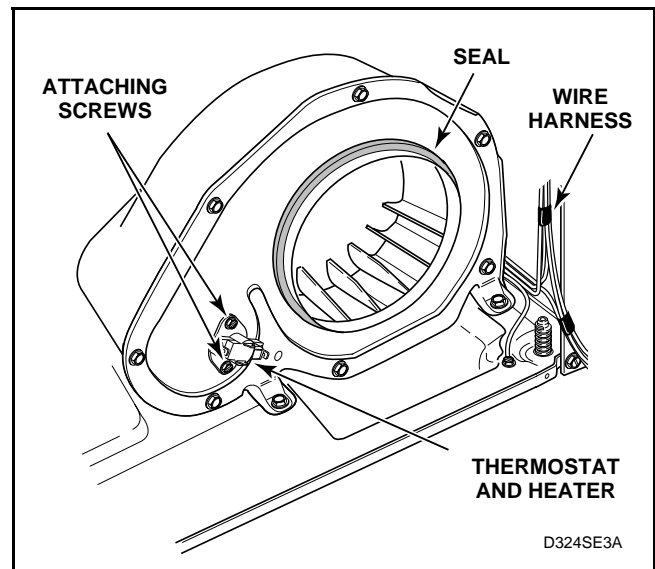
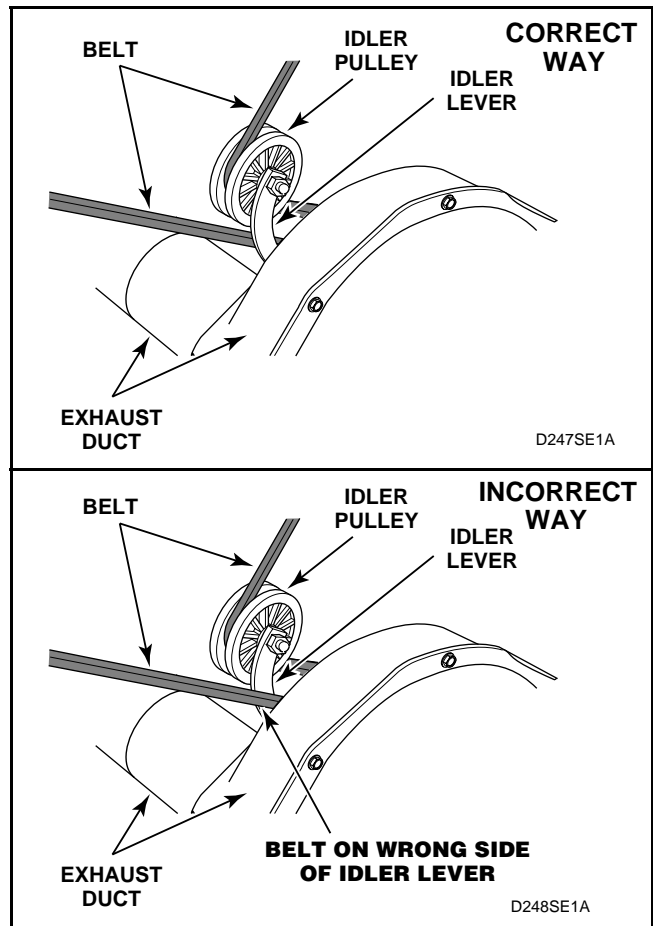

Figure 18
Figure 21
- Disconnect wires and remove thermostat attaching screws, thermostat and heater. See *Figure 18*.
**IMPORTANT:** When reassembling, be sure seal on exhaust fan cover makes airtight seal on flange of duct. See *Figure 18*. If the seal is installed improperly, the airflow through the exhaust system will be restricted which can adversely affect dryer performance.
- Remove cylinder belt from idler and motor pulleys. See *Figure 21*.
**IMPORTANT:** When reinstalling motor and exhaust assembly, be sure wire harness on right side is clipped to motor mounting bracket and is routed along dryer base (between motor mounting bracket and right side of cabinet). See *Figure 18*. Tab on rear of motor mounting bracket must be slid into slot in dryer base. Be sure the belt has been installed on the correct side of the idler lever. See *Figure 21*.